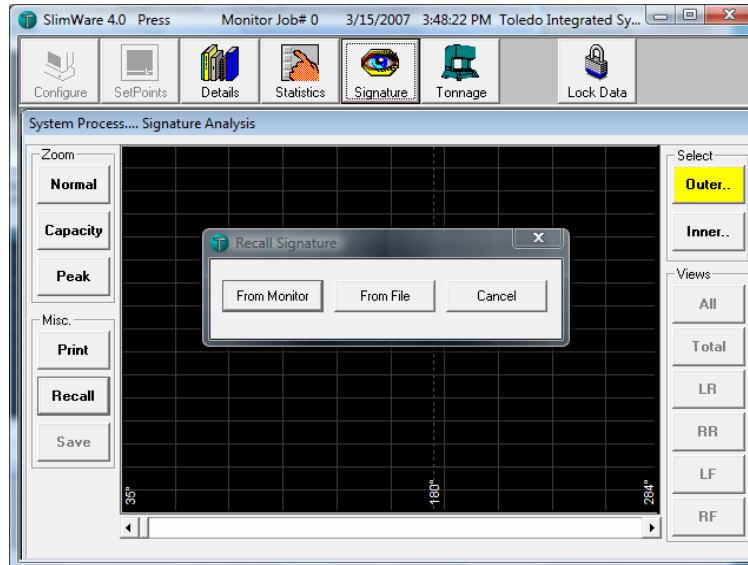

Figure 9.3 - Recall Signature Prompt Box (Select From Monitor)
- Select the **Recall** button on the System Process window. The **Recall Signature** prompt box will be displayed as shown in Figure 9.3. Click the button **From Monitor** to begin downloading a signature from the online Slim load monitor.